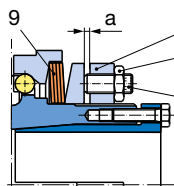

Fig. 9
Sizes 4 and 5 (Figs. 9 and 10):
- Loosen all hexagon nuts (7).
- Adjust all set screws (6) evenly to the required dimension "a" using a hexagon socket wrench.
- EAS®-Compact® ratchetting and synchronous clutch, Size 4: find dimension "a" in the Adjustment Table glued to the clutch (Fig. 9).